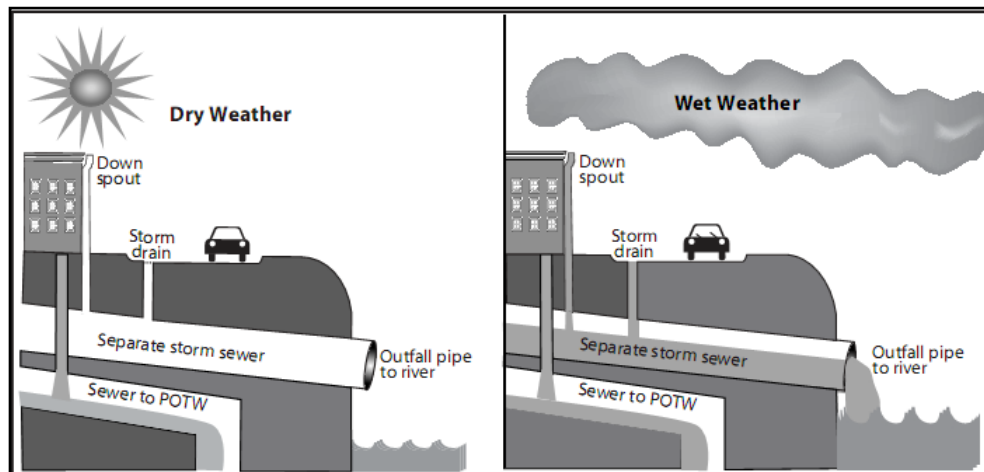

Figure 1.8: A comparison of Combined Sewer Systems (CSS) and newer Separate Sewer Systems (SSS).
- To fix this problem, towns began constructing pipes to carry wastewater from homes to existing storm sewers. These became the first combined sewer systems. In **combined sewer systems (CSS)**, wastewater and storm runoff are collected and transported in a single system of pipes. CSS pipes must be large enough to handle both sewage and the large amount of runoff generated in a rainstorm (See **Figure 1.8** on pg. 13).
- After a series of cholera and yellow fever outbreaks in Memphis in the 1870s, city officials attempted to improve sanitary conditions with the construction of one of the nation's first **separate sewer system (SSS)**, designed to collect and transport wastewater using two separate systems of pipes: **sanitary sewers** for sewage and **storm sewers** (now called storm drains) for runoff (See **Figure 1.8**). After cases of yellow fever and cholera decreased, the separate sewer system was heralded as a success and a viable alternative to combined sewer systems.